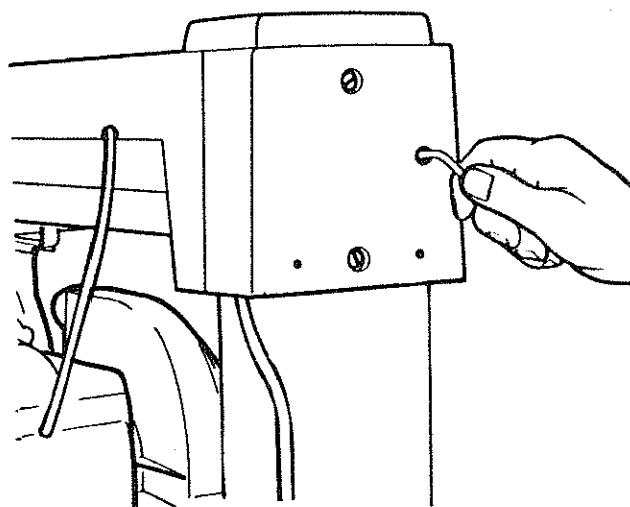

Fig. 129 - Location of Hex socket Cap Screw
2. With a 3/16 inch hex "L" wrench find the 1/4-20 hex socket cap screw through the hole in the rear of the *arm cover*. To tighten turn the wrench clockwise approximately 1/4 turn. (Figure 129)